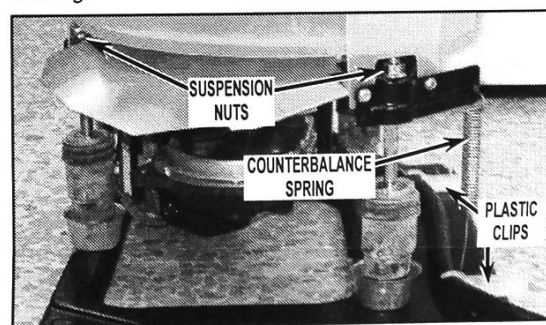

FIGURE 11
15. Loosen and remove the three (3) suspension nuts. See *Figure 11*.
16. Unhook the counterbalance spring and remove the drain hose from under the two (2) plastic clips at the rear of the base. See *Figure 11*. Lift machine assembly from suspension shocks.